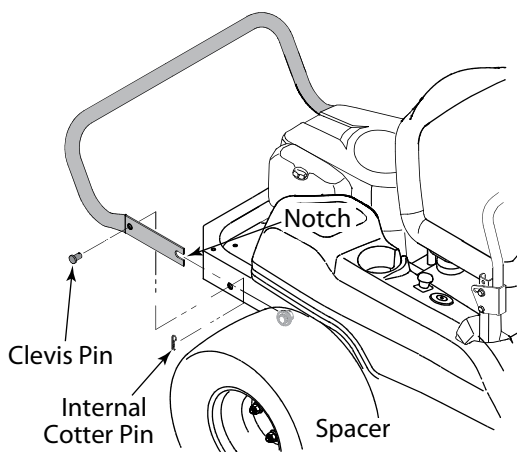

Figure 3-4
- While supporting the rear bumper, cut the cable tie fastening the bumper to the engine lift bracket, and remove the clevis pins from each side. See Figure 3-4.
- Remove the bumper and reposition to align the notch at each end of the bumper with the spacer on each side of the frame. Slide the bumper notches onto the spacers. Refer to Figure 3-4.
- From the inside surface of the tractor frame, just rearward of the rear tire on either side of the tractor, pull the internal cotter pin from the clevis pin. Move to the other side of the tractor and remove the internal cotter pin from the other clevis pin. Refer to Figure 3-4 if necessary.